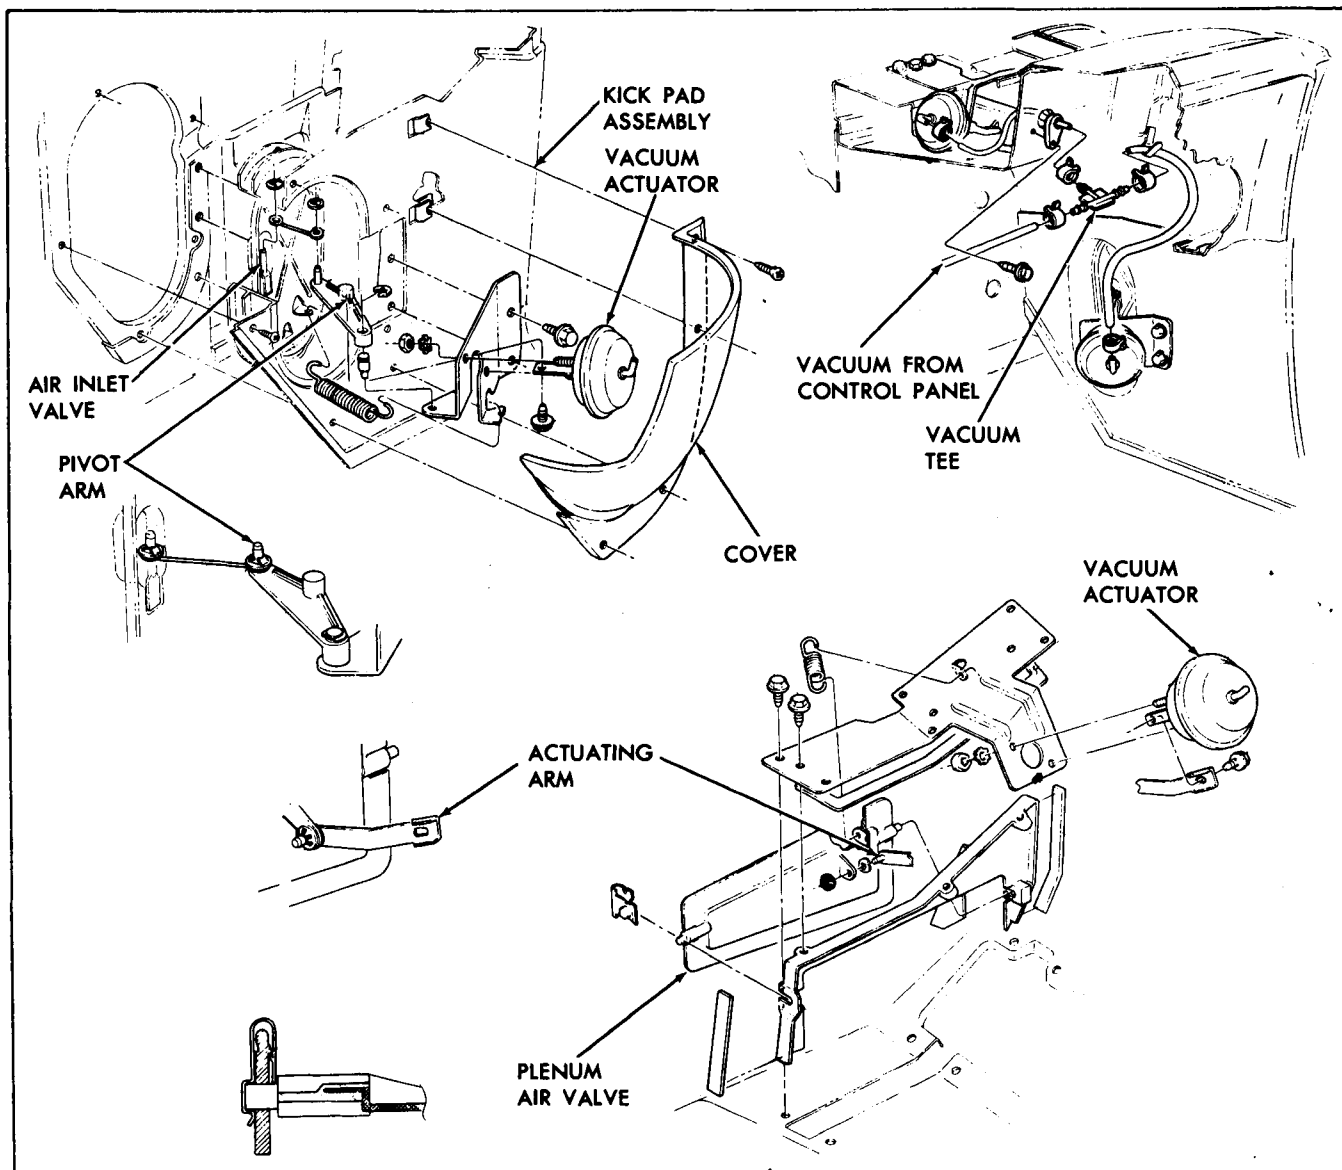

Fig. 1A-50 Firebird - Air Inlet and Plenum Air Valve
2. Remove heater case to cowl attaching nuts (Fig. 1A 51). On some models it may be necessary to drill a one inch hole in fender skirt to gain access to lower nut.